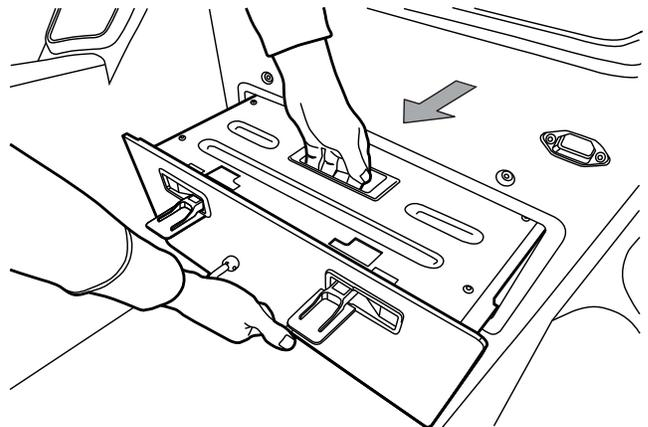

Figure 2: Slide the Battery Module out of the SE-3 Patroller
4. Grasp both the front handle and the top handle of the Battery Module (**Figure 2**). Slide the Battery Module completely out.